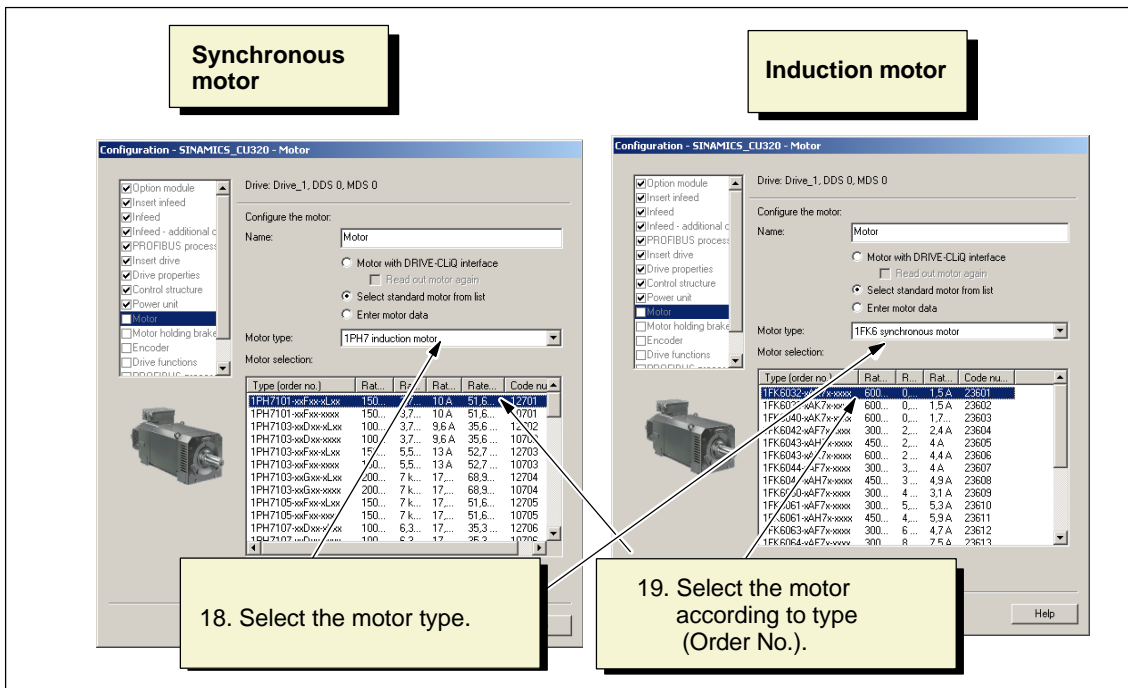

Fig. 3-25 Motor configuration
17. Click **Continue >** to select the motor (see Fig. 3-25).